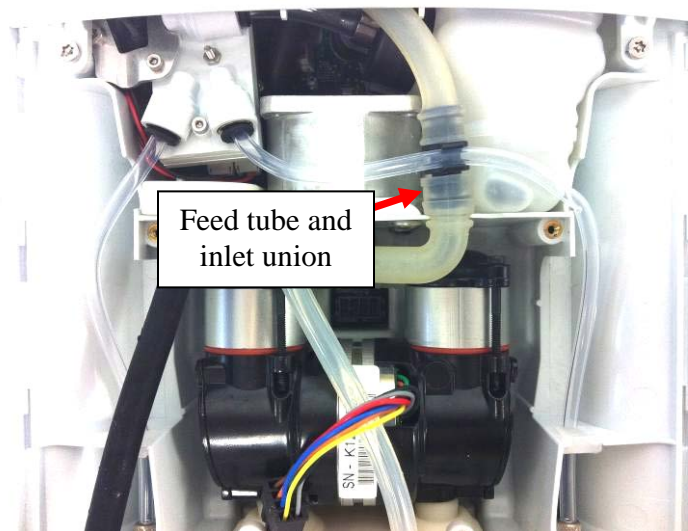

Figure 7: Unplug dual feed tube
5. Unplug the dual feed tube from the black inlet union using a flathead screwdriver, if necessary (Figure 7).
3. Re-attach the dual feed tube to the black inlet union, making sure the tube is fully secured (Figure 7).